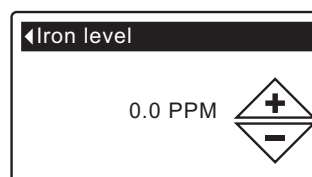

FIG. 47
5. Press the SELECT (O) button to display the Iron level screen (See Figure 47).